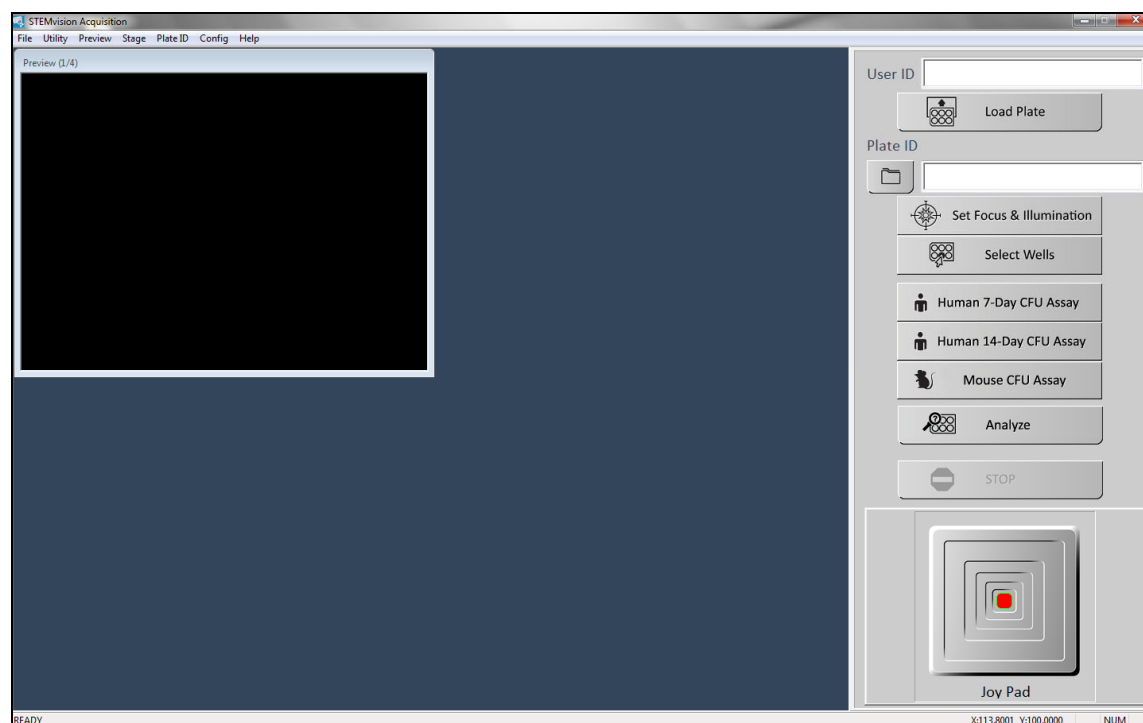

Figure 4. STEMvision™ Acquisition Application on Startup
2. Start the STEMvision™ Acquisition application on the computer by double-clicking the icon on the desktop. The user interface of the STEMvision™ Acquisition application is shown in Figure 4.